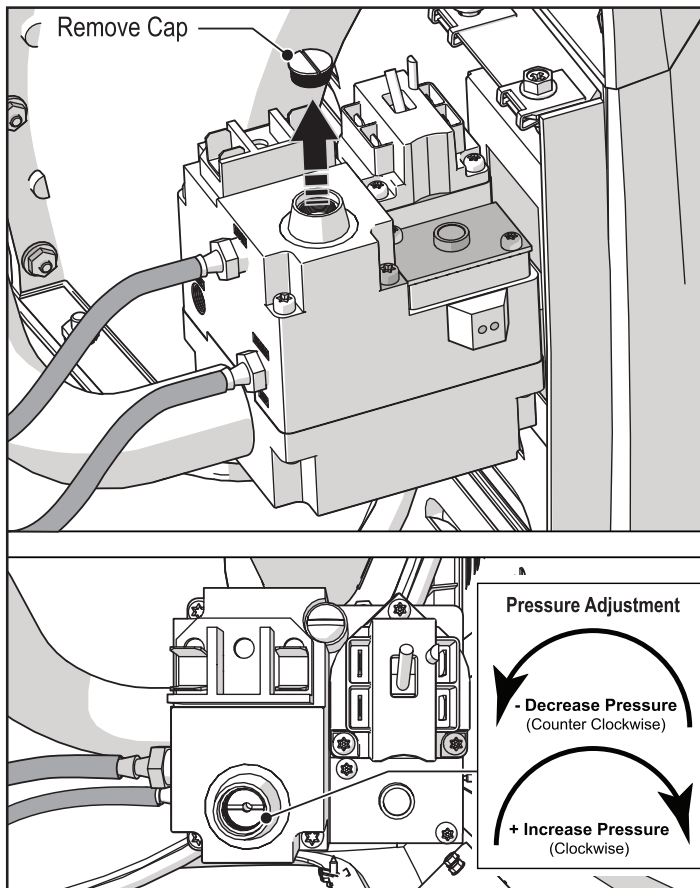

Figure 33. Adjust Offset Pressure
- If the offset pressure is incorrect, adjust pressure by removing the gas valve sealing cap and rotating the plastic screw using a blunt tool, such as a flat head screwdriver (see Figure 33).